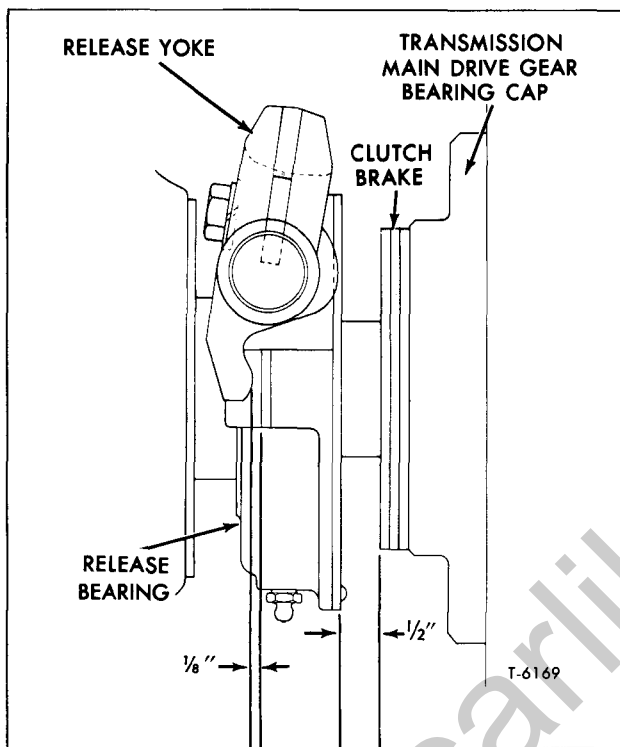
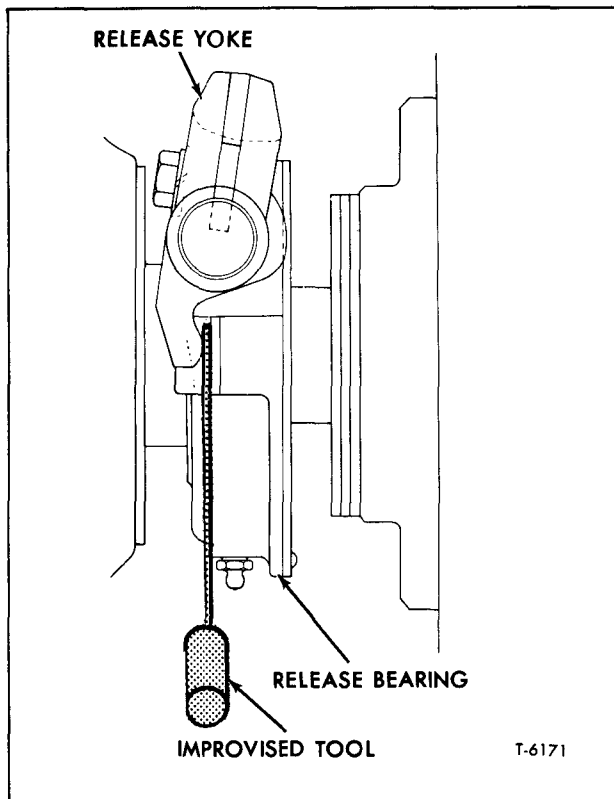

Figure 5—Release Bearing Clearance
Figure 9—Checking Clearance Between Yoke and Release Bearing
2. The clearance between release bearing and clutch brake for a properly adjusted clutch is ½-inch as shown in figure 5. Using large end of tool
4. The clearance between release bearing and yoke (free-travel) should be 1/8-inch as shown in figure 5. Using small end of improvised tool (fig. 4), check clearance between yoke and release bearing as shown in figure 9. If clearance is more or less than recommended, rotate release lever adapter, using a 3/4-inch open end wrench, until gap between yoke and release bearing is 1/8-inch.